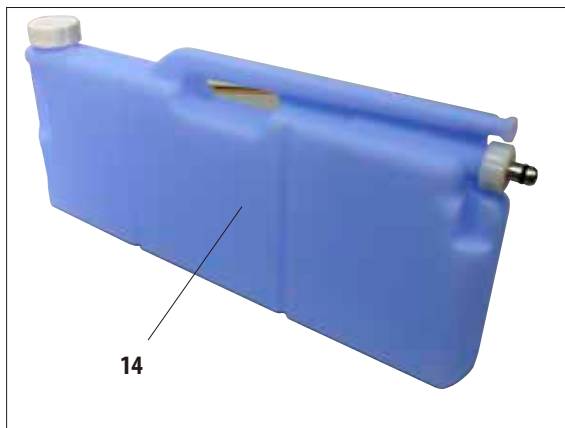

Fig. 52
- The condensate bottle (14, Fig. 52) has the exact same shape and connection design as the system bottle. The difference is that it is made of blue plastic.